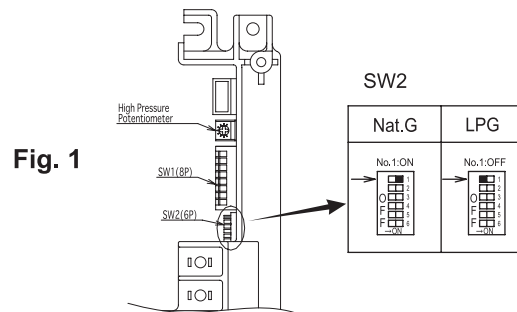

Fig. 2
5. Attach pressure gauge to burner test point, located on the gas control. (Fig.2).